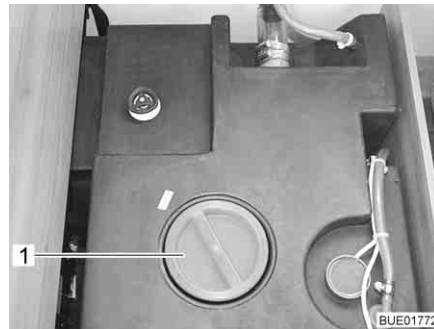

Fig. 231 Water tank with handle
- Remove the cap (Fig. 231,1) of the water tank.